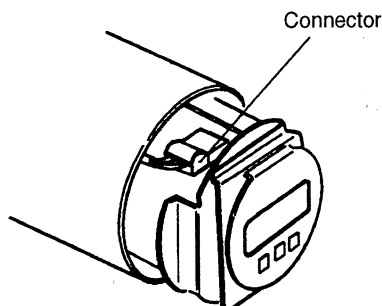

Figure 4.2.3 Connector Position
- (4) Draw out the amplifier forwards a little, and disengage the connectors as shown in Figure 4.2.3
- (5) Place the removed amplifier on an insulating pad.